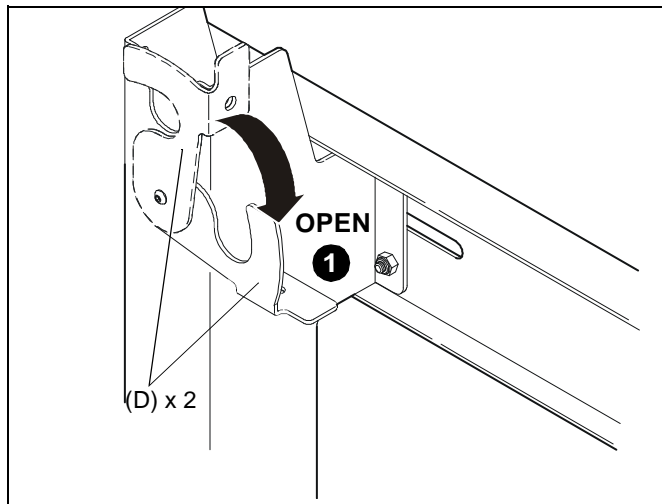

Figure 5
1. Move locking flags (D) on mount to the OPEN position. (See Figure 5)